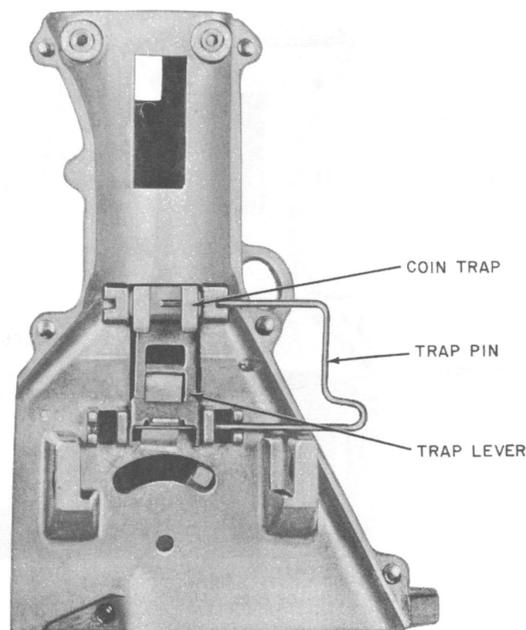

Fig. 19 — Placing Coin Trap on Hopper
- (1) Partially insert trap pin into hole in hopper.
- (2) Place trap-lever on trap pin
- (3) Insert coin trap in hopper and engage pin in trap (Fig. 19).